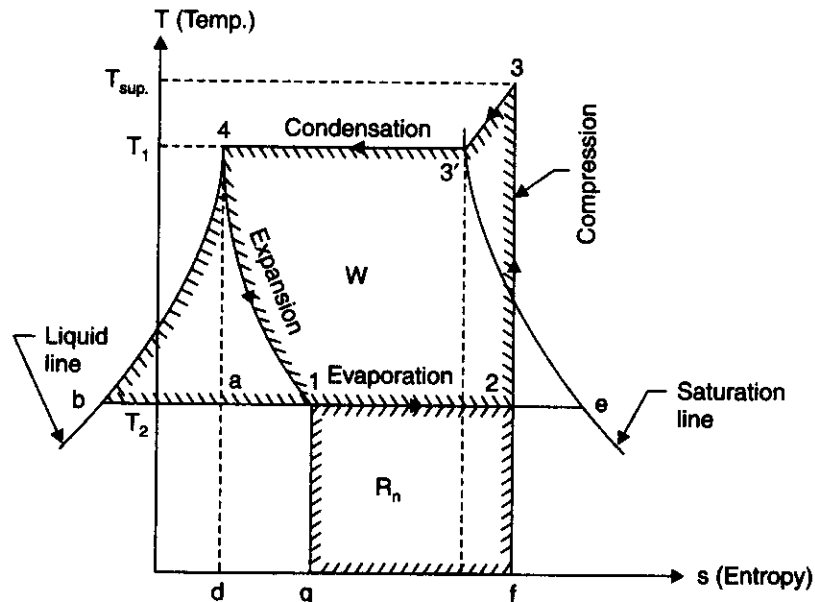

Fig. 14.11.  $T$ - $s$  diagram.
**2. When the vapour is superheated after compression.** If the compression of the vapour is continued after it has become dry, the vapour will be superheated, its effect on  $T$ - $s$  diagram is shown in Fig. 14.11. The vapour enters the compressor at condition '2' and is compressed to '3' where it is superheated to temperature  $T_{sup}$ . Then it enters the condenser. Here firstly superheated vapour cools to temperature  $T_1$  (represented by line 3-3') and then it condenses at constant temperature along the line 3'-4; the remaining of the cycle; however is the same as before.